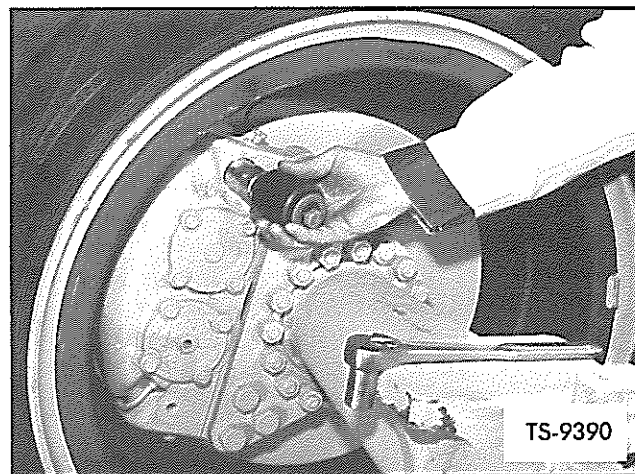

Fig. 6. Remove Unlocked Pin
4. When pin turns freely, remove extracting device and remove pin as shown in Figure 6.